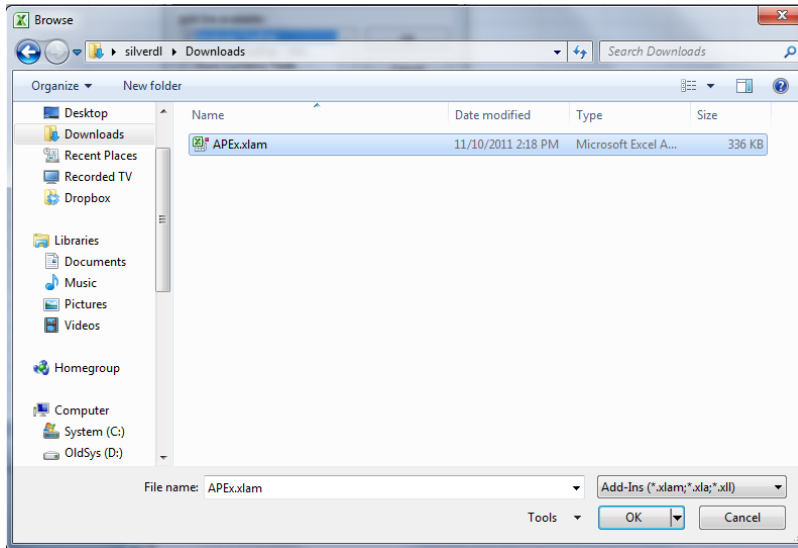

Figure 9
5. Click **Browse**. Navigate to the location to which you downloaded the add-in and select the **APEx.xlam** file. Click **OK**. The default location is the **Downloads** folder (Figure 9).